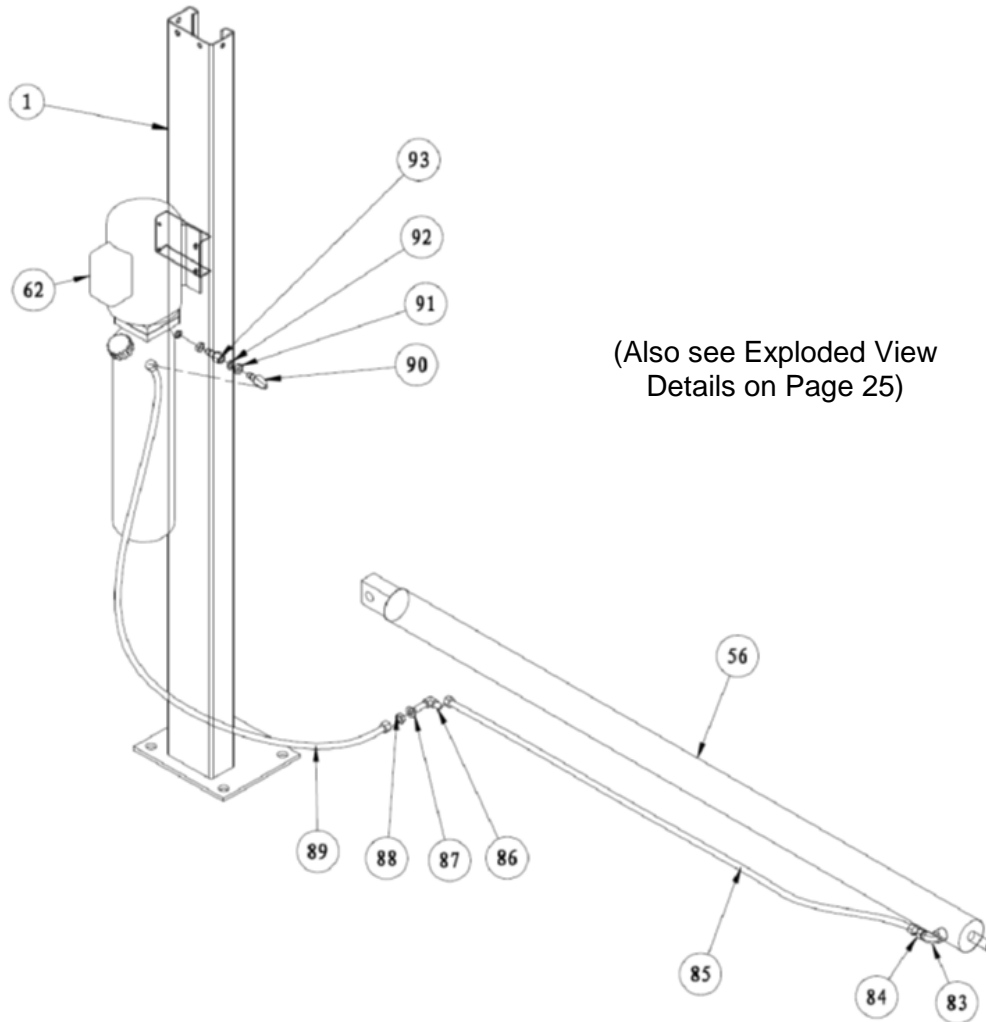

Fig. 10
22. Install the 90 degree Hydraulic Fitting, Nuts & Washer (# 90, 91, 92 & 93) to the high pressure port on the Power Unit, shown in Figure 10. Connect the 110VAC electrical power to the Power Unit.
23. Install the “wire braded” Hydraulic Hose (#89) to the Fitting on the side of the Main side Runway and attach the other end to the 90 degree Fitting on the Power Unit, as shown in Fig.10.